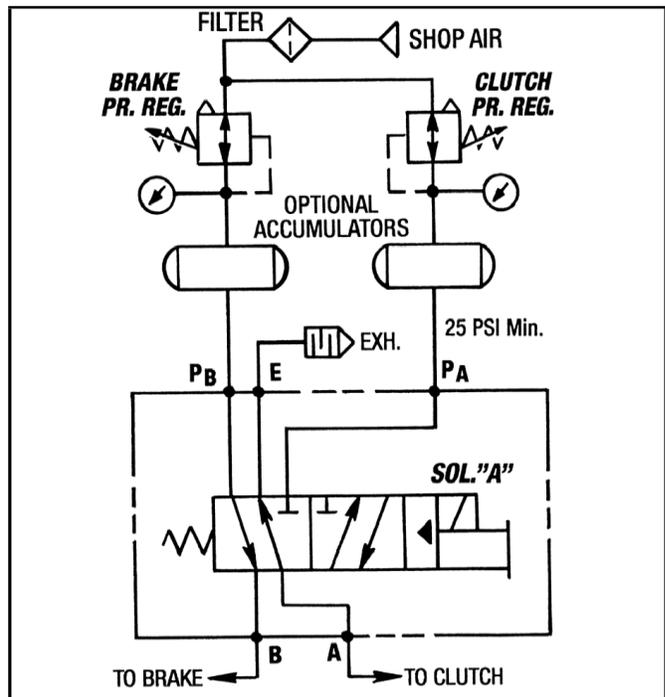

Figure 3.4 - 2PI-3/8 Control Valve without Regulators - Air operated clutch, Spring-set Brake with air assist. (S and SA Logics)
3. The optional accumulators should be used for quick response, particularly if the air line loss and the nature of the air supply is such that recovery is slow. Accumulators can only be used in pneumatic systems where the pressure regulators are installed before the accumulators as shown in *Figure 3.4* for the 2PI-3/8 Control Valve. Size the accumulator to be at least 10 times the air required per engagement (**See Table 2.1**)